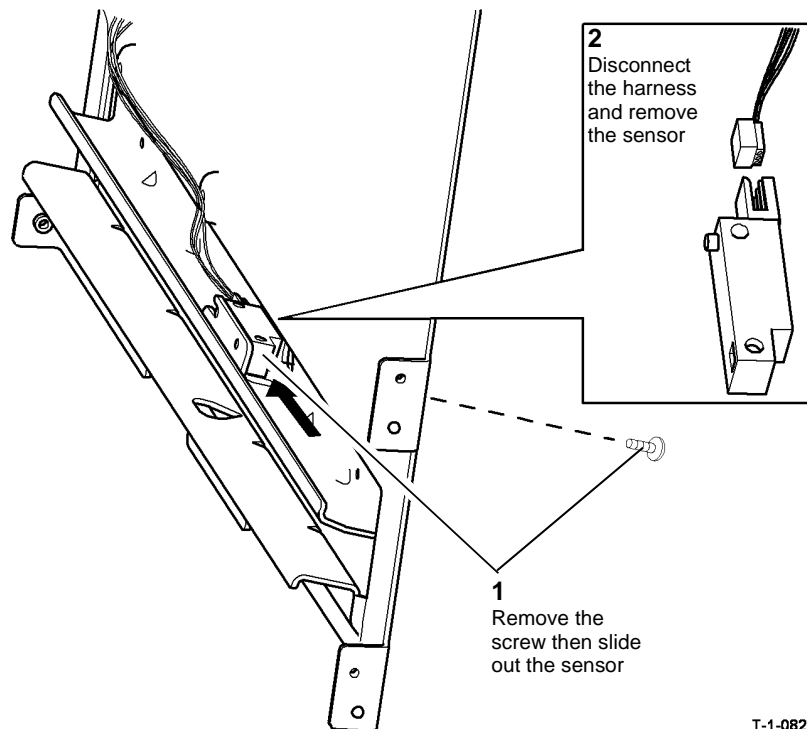

Figure 1 Sensor removal
3. Figure 1, remove the BM exit sensor.